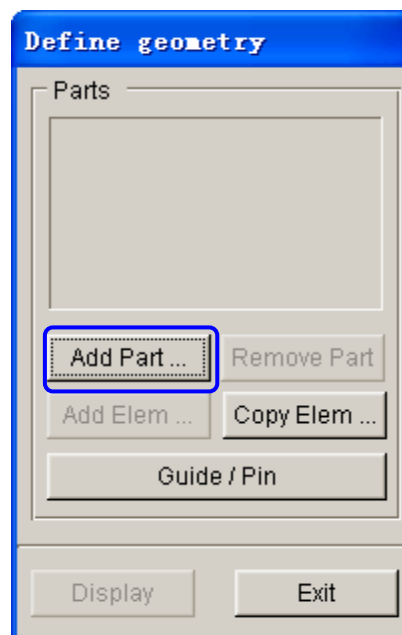

Figure 1.15 Define Geometry dialog box
5. The DEFINE GEOMETRY dialog box illustrated in Figure 1.15 is displayed. Next, click the **Add Part...** button in the dialog box.